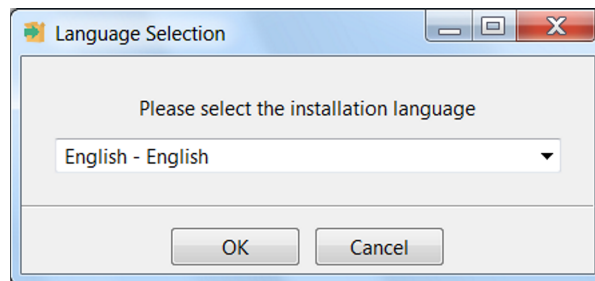

Figure 14. Language Selection
- Step 2. Follow the prompts to select another language from the default of English (see Figure 14).